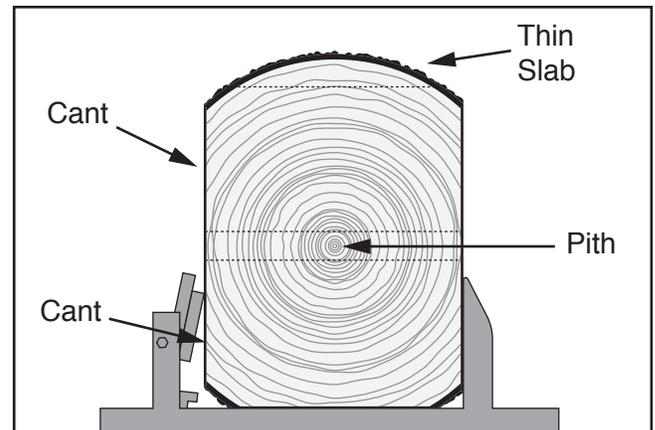

Figure 91. Two rectangular cants and pith to be removed.
8. Cut a thin slab and remove it from cant (see **Figure 91**). Discard slab.
9. Cut above pith, then remove top cant from the cant secured to the track (see **Figure 91**). Set top cant aside for now.
10. Cut below pith. To reduce waste, cut a board that is a usable thickness when cutting below pith. Remove board with pith from cant (see **Figure 91**). Set board aside for now.